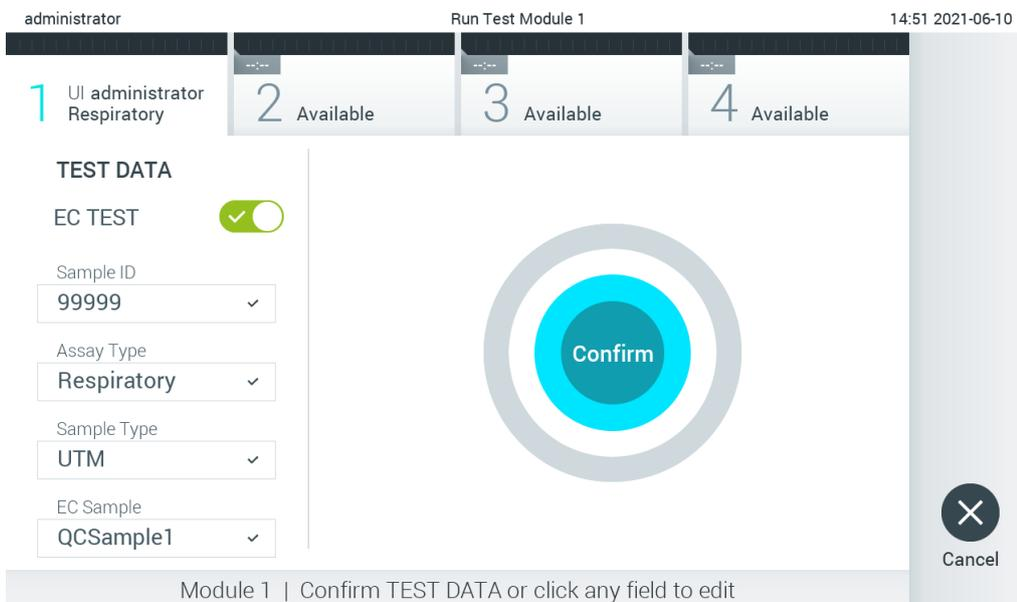

Figure 93. The Confirm screen.
- The **Confirm** screen will appear. Review the data entered and make any necessary changes by pressing the relevant fields on the touchscreen and editing the information (Figure 93).